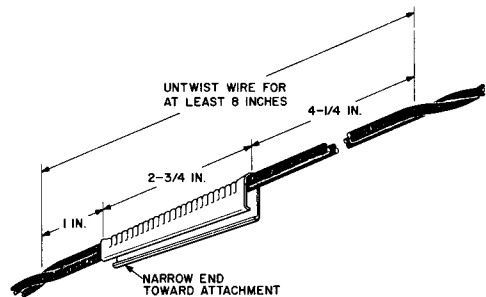

Fig. 8 — Installing Drop Wire Clamp on Twisted Pair Wire
- 3.03** Untwist the wire for at least 8 inches of its length at the location the clamp will occupy. Place the two conductors side by side in the shell as indicated in Fig. 8.